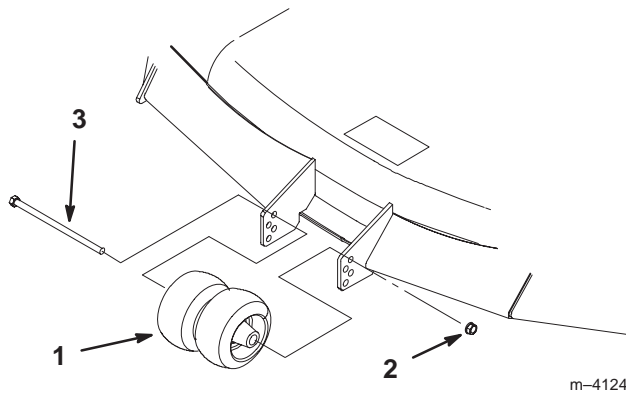

Figure 24
2. After adjusting height-of-cut, remove bolt and nut (Fig. 24).
3. Select hole so gage wheel is positioned to the nearest corresponding height-of-cut desired (Fig. 24).
4. Reinstall the bolt, center rollers and nut (Fig. 24).